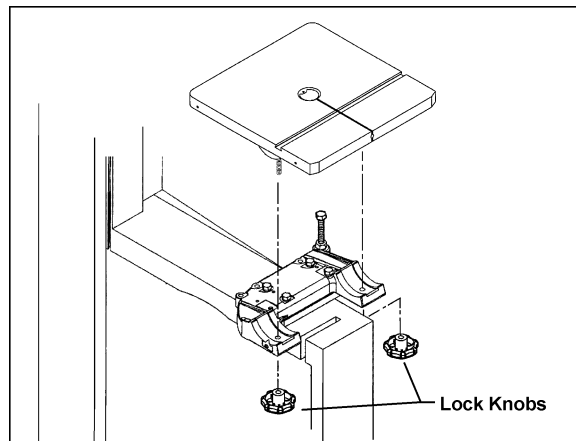

Figure 4
13. Mount the table to the trunnion bracket, making sure the screws in the trunnions are inserted through the holes in the bracket (Figure 4).
14. Install the two lock knobs (Figure 4) onto the two trunnion screws, and tighten the lock knobs.